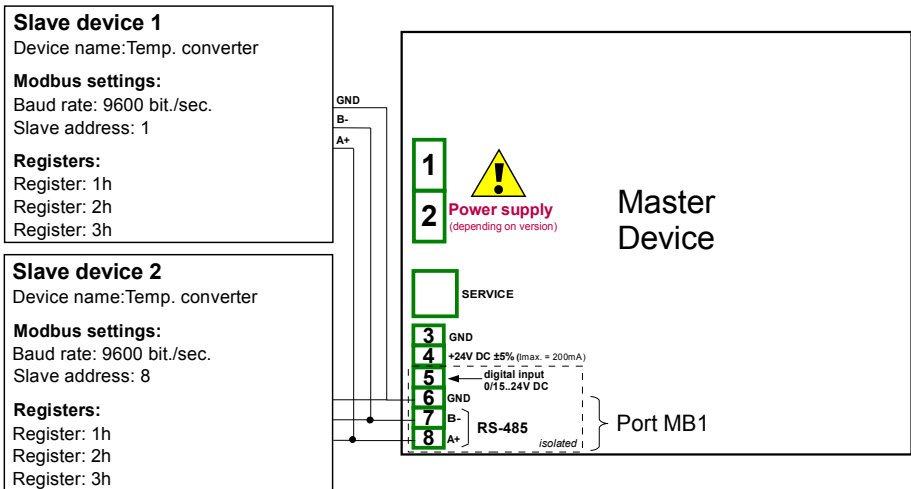

Fig. 7.138. Connection diagram for the Modbus port MB1
First configure the device, then connect the SLAVE device to the MultiCon (in accordance with **Fig. 7.138**).
- using the arrows in the upper right corner choose **Port number: 1 (MB1** in accordance with **Fig. 7.138)**,